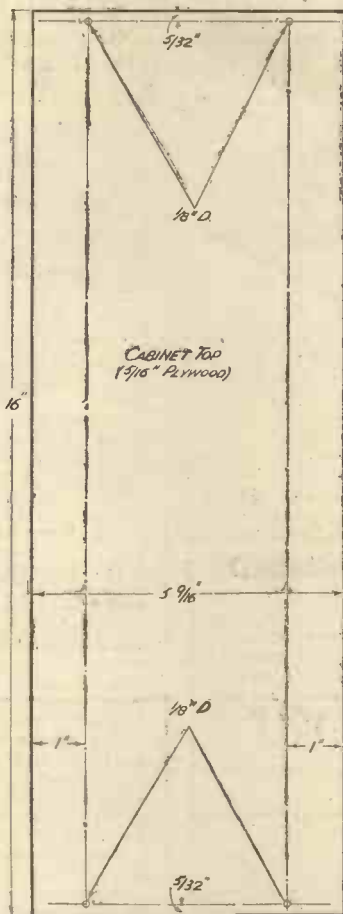

Fig. 2.—Details for preparing the top of the "Easy-Cabinet." Dimensions for the side pieces are given in the diagram on page 594.
(D) If you are going to use my Easy-Cabinet system and have not bought the pieces ready prepared, carry out instructions in this section (D). If you have bought the pieces ready prepared, skip this section (D). Cut to size and drill cabinet top (Fig. 2), drilling 1/8-in. holes as advised above. Using the diagram on page 594 and keeping to the order of drawing the lines shown, mark out the cabinet side-pieces on the sides which will show.